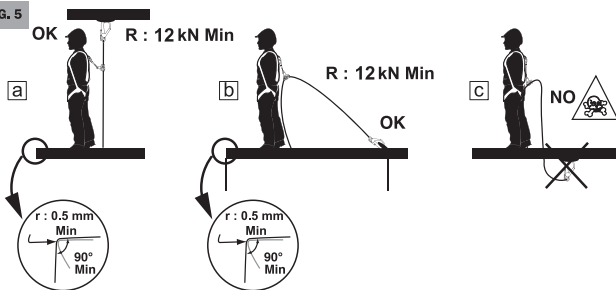

FIG. 6.1
21. Stopfor fall arresters must be used on a vertical belay support or with a maximum vertical angle of 30° or a maximum displacement of 3m from the vertical (see Fig. 6.2). For B/BF/MSP devices, they can be used in a horizontal position to work on terraces and not more than 1.50 m from the perpendicular to the ridge (see Fig. 6.1).